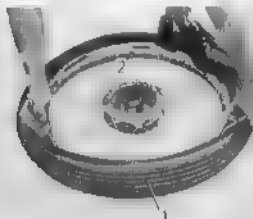

Fig. 4.87 Removing tire ① Tire ② Tire lever
12. Remove the tire (1) from the rim with the tire lever (2) and pull out the tube from the casing. (Fig. 4.87)